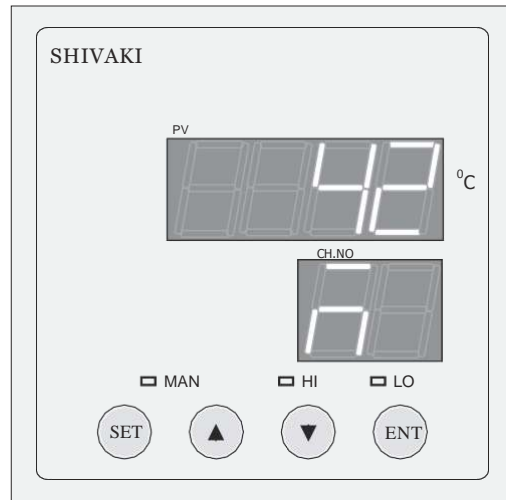

Fig. 1.6.1
The top display (PV) shows the presetted minute. The bottom display shows the parameter "m". Refer Fig. 1.6.1